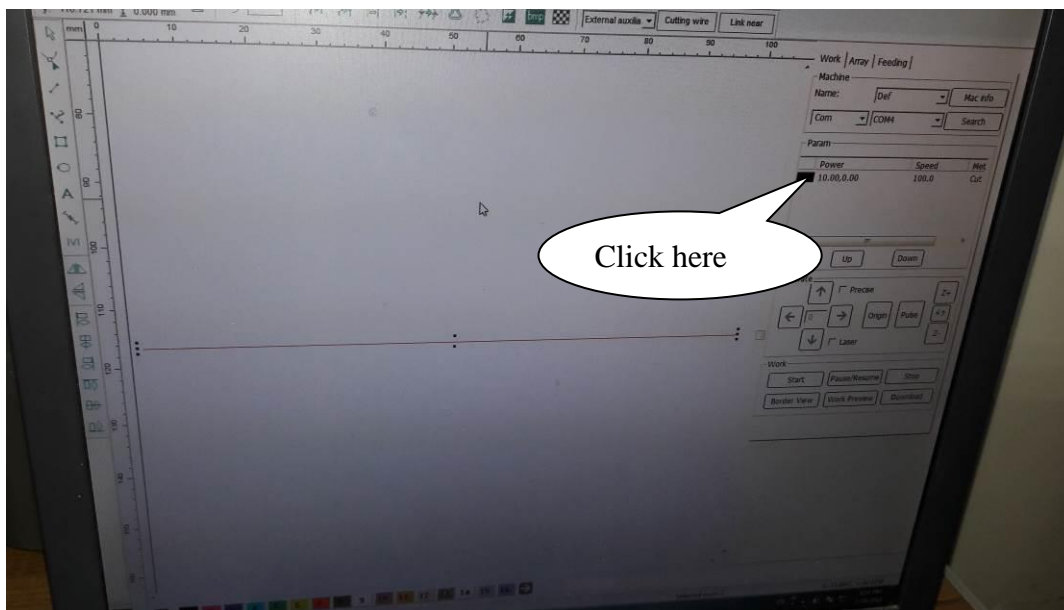

Figure 2
- 4. Double click the layer name below the “Param” frame to go to the “Work param “ window. ( Figure2 )